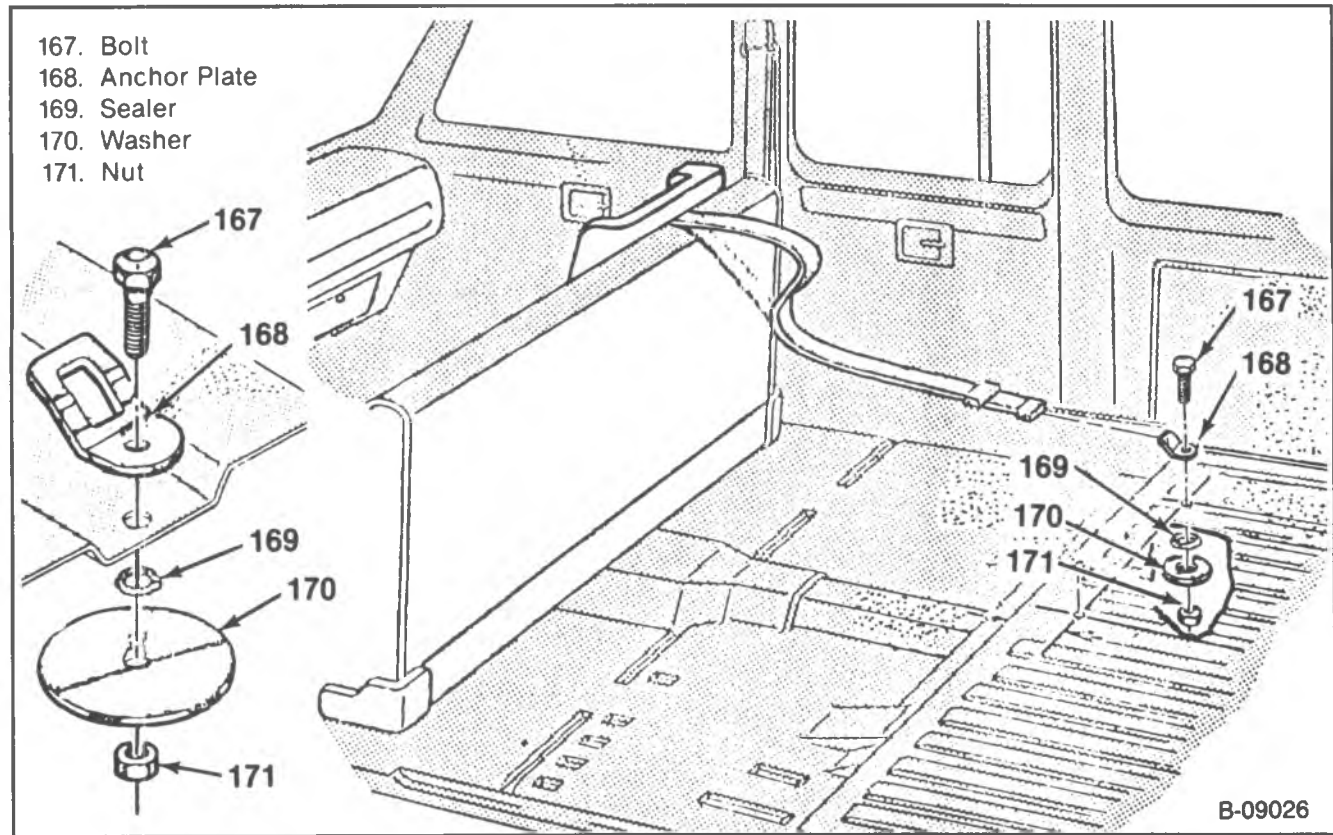

Figure 31 — Suburban Front Seat Top Strap Belt Components
1. Determine the location for the anchor by measuring 51 mm (2-inches) rearward from the rear edge of the kick up molding. Make this measurement in the center of one of the depressed floor pan ribs (figure 31).